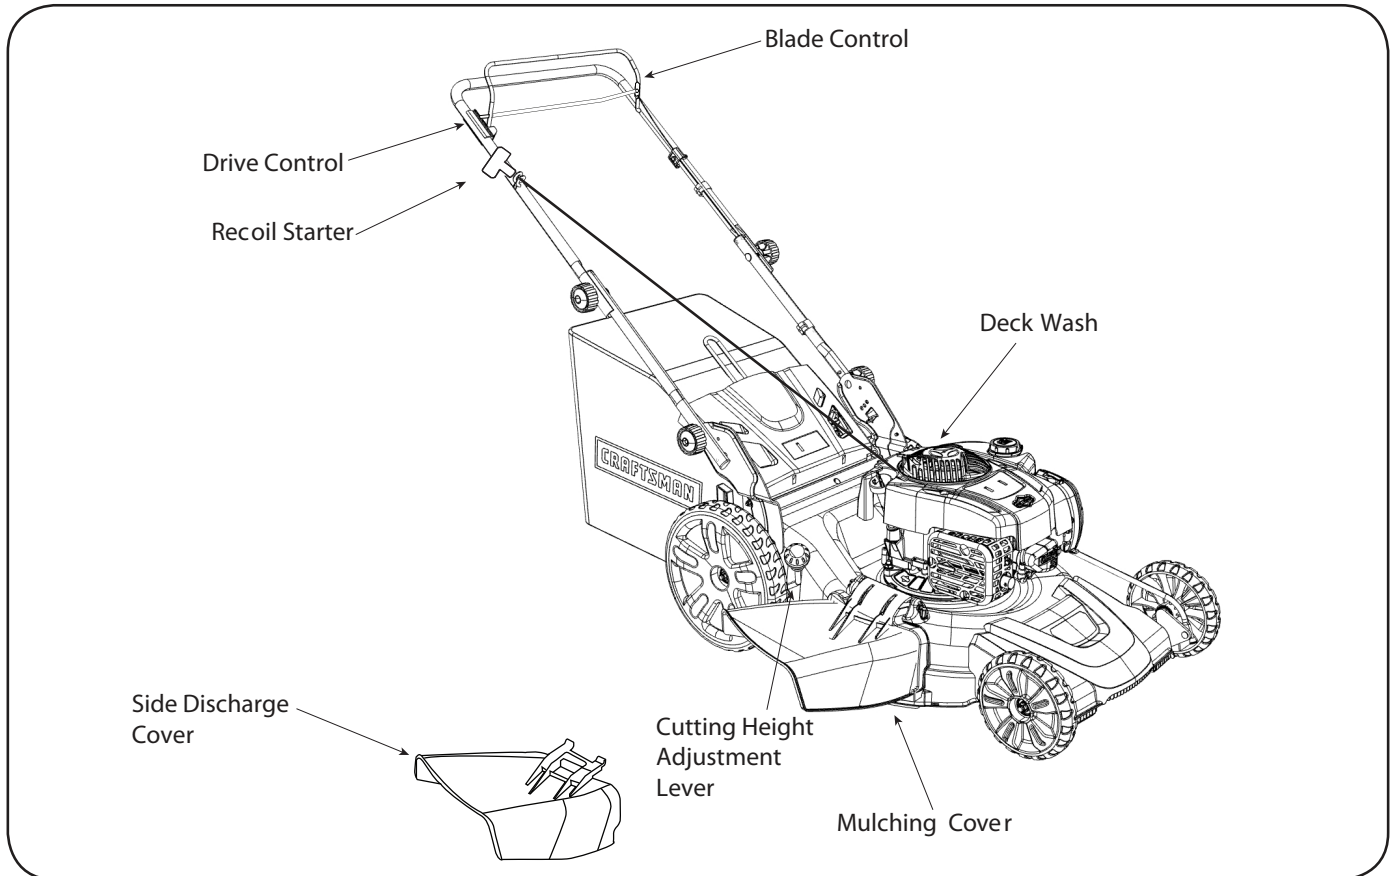

Figure 10
1. Standing behind the mower, pull the blade control handle back against the upper handle (Figure 10).
2. While holding the blade control against the upper handle, grasp the recoil starter handle and pull rope out with a rapid, continuous, full arm stroke (Figure 10). Keeping a firm grip on the starter handle, let the rope rewind slowly. Repeat until engine starts. Let the rope rewind each time slowly.
1. Hold the blade control against the upper handle (Figure 10).
2. Start the engine (Figure 10).
3. Once the engine is running, pull and hold the drive control handle together with the blade control handle to propel the mower forward (Figure 10). Once pressure is released from the drive control it will return to the neutral position and the drive will be disengaged.